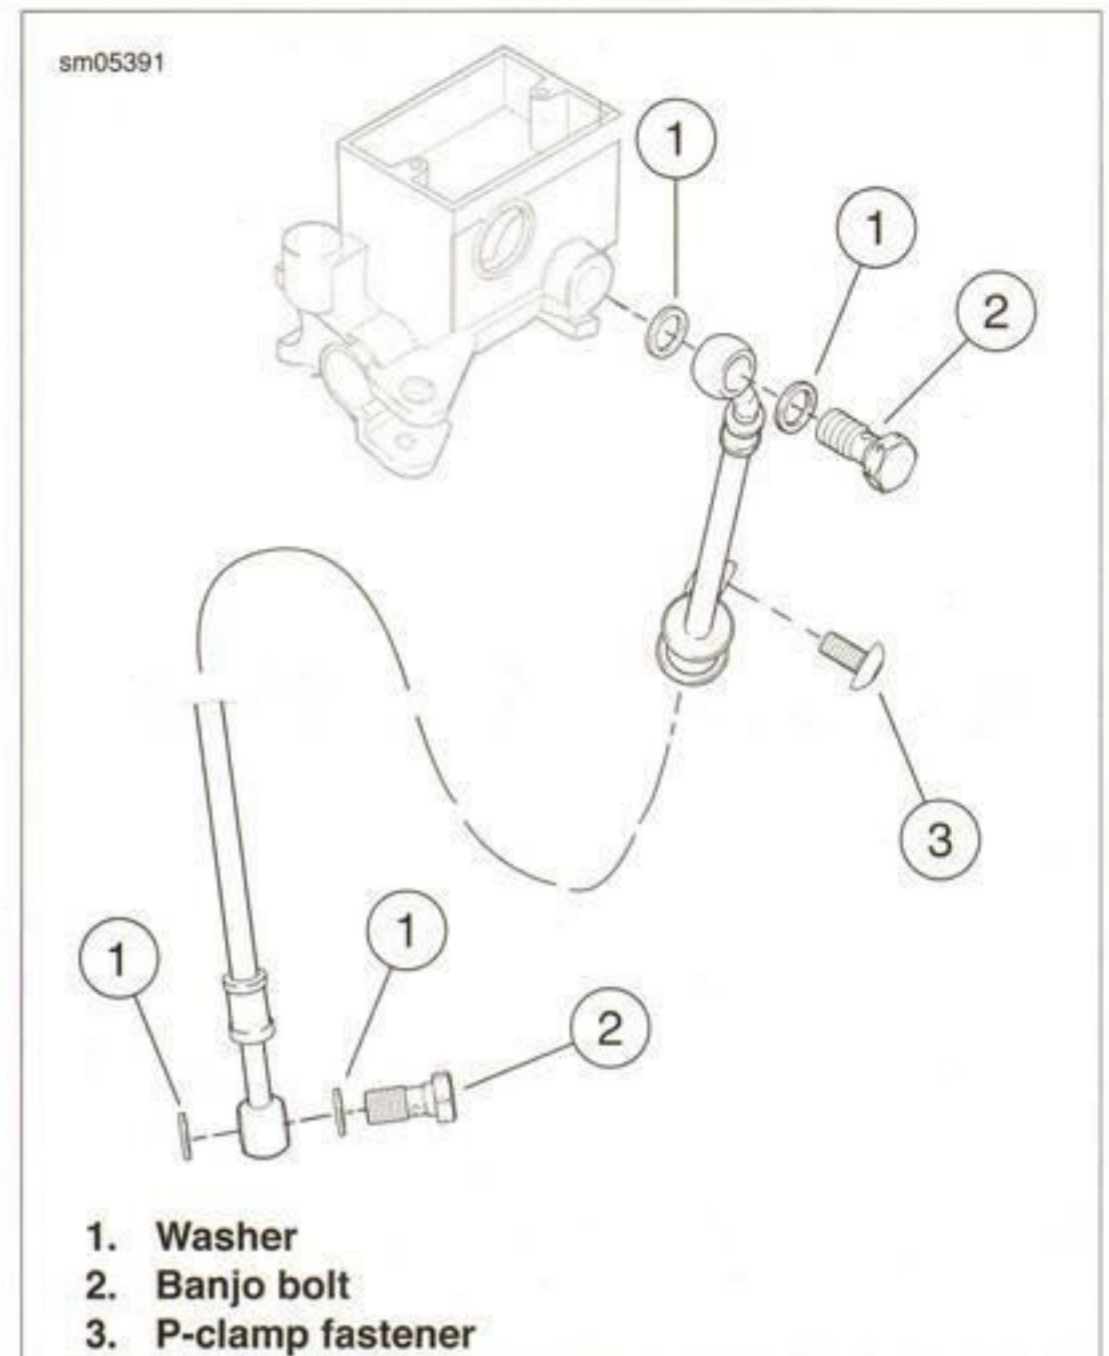

Figure 2-60. Brake Fluid Line
1. See Figure 2-60. Connect the brake fluid line to master cylinder/reservoir using two **new** copper washers (1) and a banjo bolt (2).